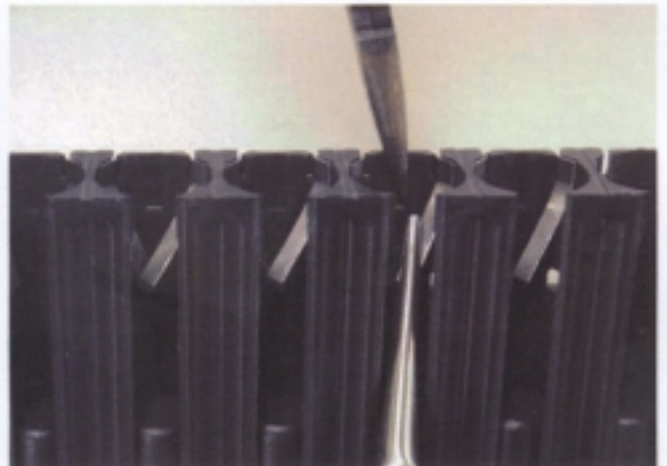

Figure 2 (Holding the back of the Rack as you pull out the Spring Legs)
2. Using a second pair of needle nose pliers grab a leg of the spring clip and pull forward see figure 2. Repeat for the second leg.